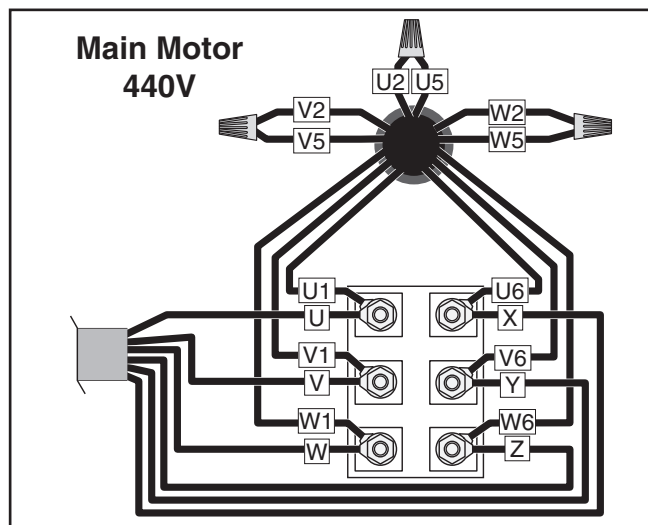

Figure 5. Main motor wired for 440V.
6. Wire main motor as shown in **Figure 5**.